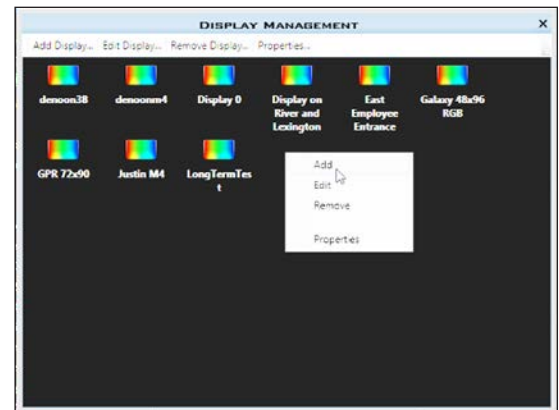

Figure 19: New Display Configuration
3. Click **Add Display...** from the **Display Management** window or right-click in the **Display Management** window and select **Add Display...**. Refer to **Figure 19**. The software searches for displays on the local network and returns a list of displays.